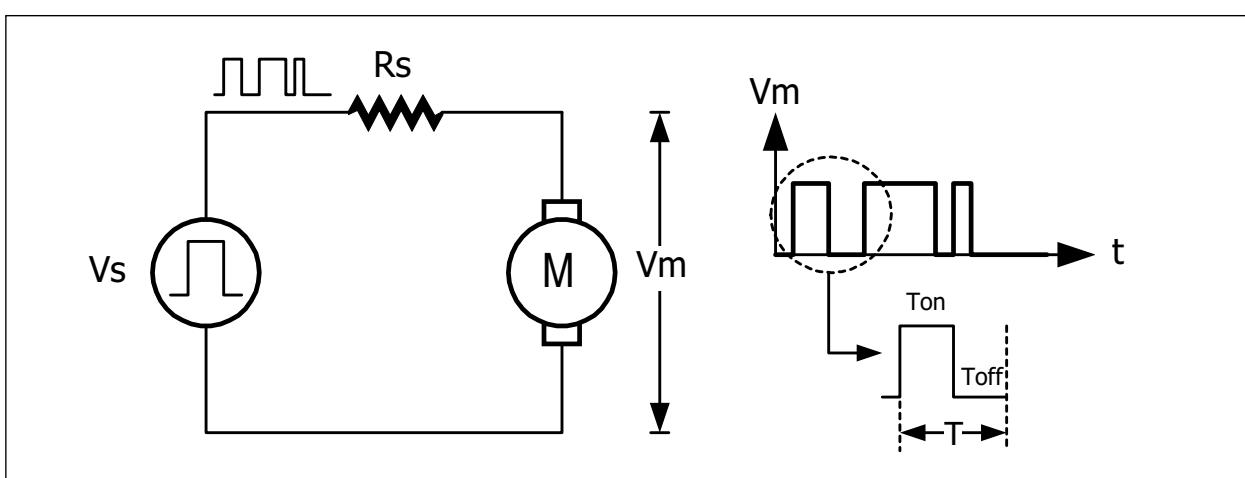

Figure 5-1 : The PWM signal for driving DC motor
Refer Figure 5-1, the Vs supplies PWM signal to DC motor. The speed is dependent on Ton time (ON time of motor). At this time, DC motor will receive the full voltage; Vm. If Ton's width is more, DC motor is received more voltage. It rotate in high speed. The ratio of Ton time in percentage with period (T) is called Duty cycle. You can calculate this as follows :